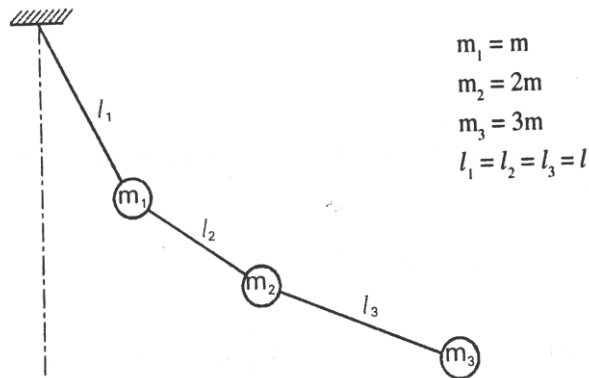

Figure 6a
- 6 a) Determine the influence coefficient of the system shown in figure 6a 10